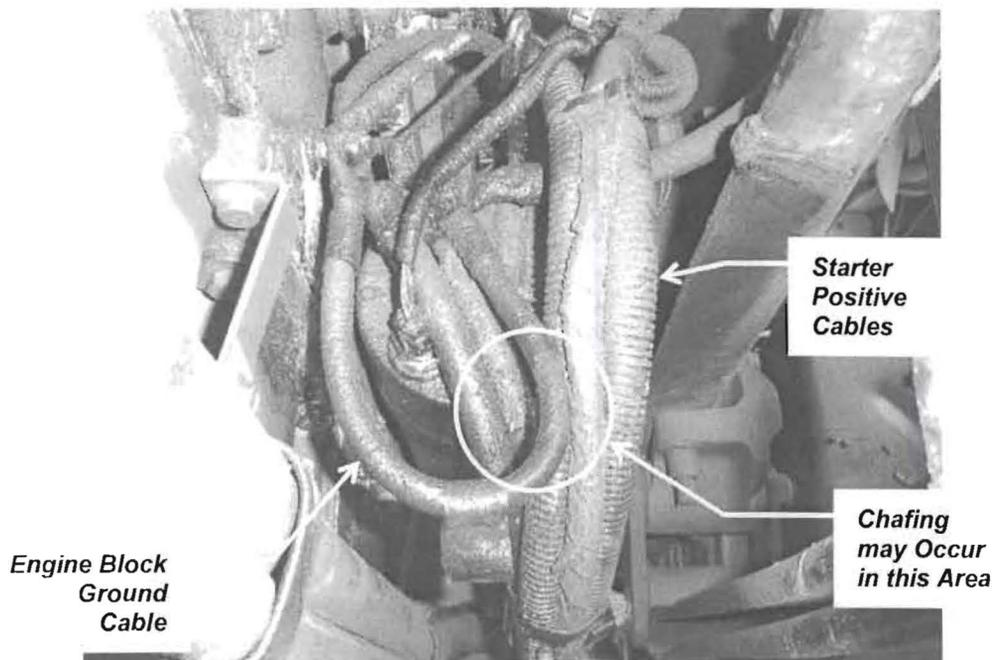
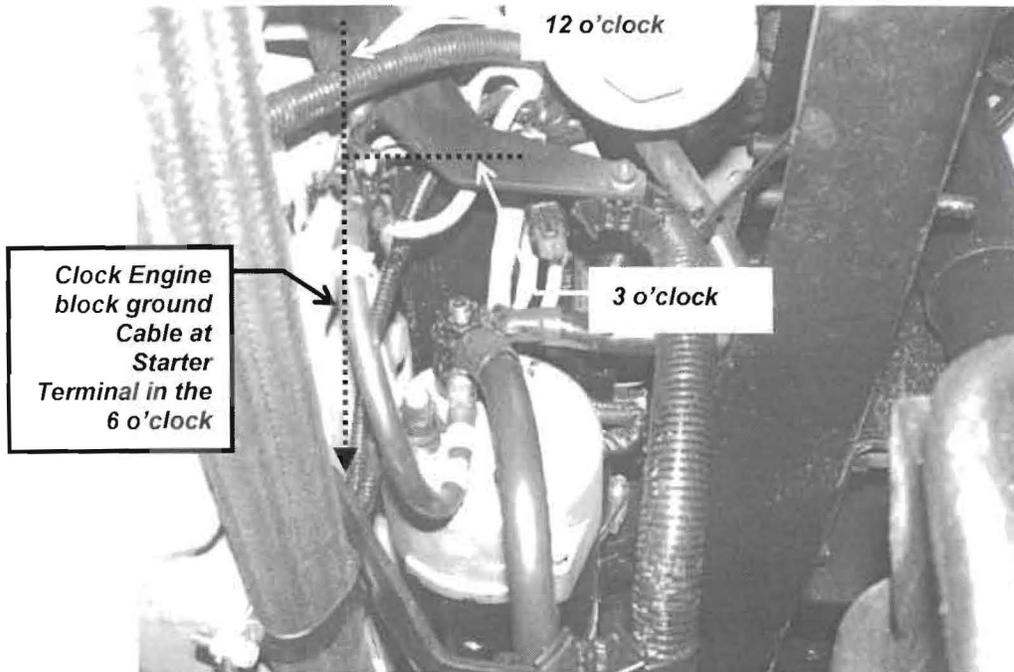

Figure 29 --
Figure 30 – Correct engine block ground cable routing.
TO PREVENT CHAFING OF THE POSITIVE CABLES AGAINST THE ENGINE BLOCK GROUND CABLE (SEE FIGURE 29), PLEASE ENSURE ENGINE BLOCK GROUND CABLE IS CLOCKED IN THE DOWNWARD (6 O'CLOCK) POSITION, SEE FIGURE 30.
- ***If contact or chafing of the ENGINE GROUND cable against the Battery Cables is present, rotate and tighten the ground cable on the starter terminal so it is straight down (6 o'clock position) and not contacting the starter positive cables, see figure 30.***